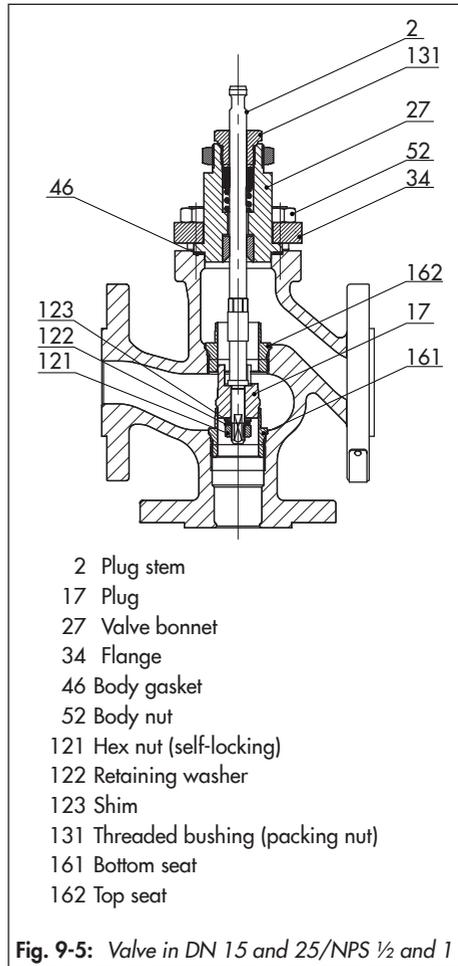

Fig. 9-5: Valve in DN 15 and 25/NPS ½ and 1
11. Apply a suitable lubricant to the thread and the sealing cone of the new bottom seat (161).
12. Screw in the bottom seat (161). Observe tightening torques.
13. Insert a new plug (17), making sure the three skirt projections face upwards.
14. Apply a suitable lubricant to the thread and the sealing cone of the new top seat (162).
15. Screw in the top seat (162). Observe tightening torques.
16. Carefully guide the plug stem (2) from above through the plug (17).
17. Slide the retaining washer and shim (122, 123) from below onto the plug stem (2).
18. Thread and tighten the hex nut (121) onto the plug stem (2). Observe tightening torques.
19. Apply a suitable lubricant to the plug stem (2) in the area where the packing is located.
20. Carefully place the valve bonnet (27) and flange (34) over the plug stem (2) and the studs (51) onto the body (20). Make sure that the gasket (46) is properly seated in the body.
21. Carefully slide the packing parts over the plug stem into the packing chamber using a suitable tool. Observe the proper sequence (see Fig. 9-5).
22. Fasten down the flange (34) with the body nuts (52). Tighten the nuts gradually in a crisscross pattern. Observe tightening torques.
23. Apply a suitable lubricant to the thread of the threaded bushing (131). Screw in the threaded bushing and tighten it. Observe tightening torques.